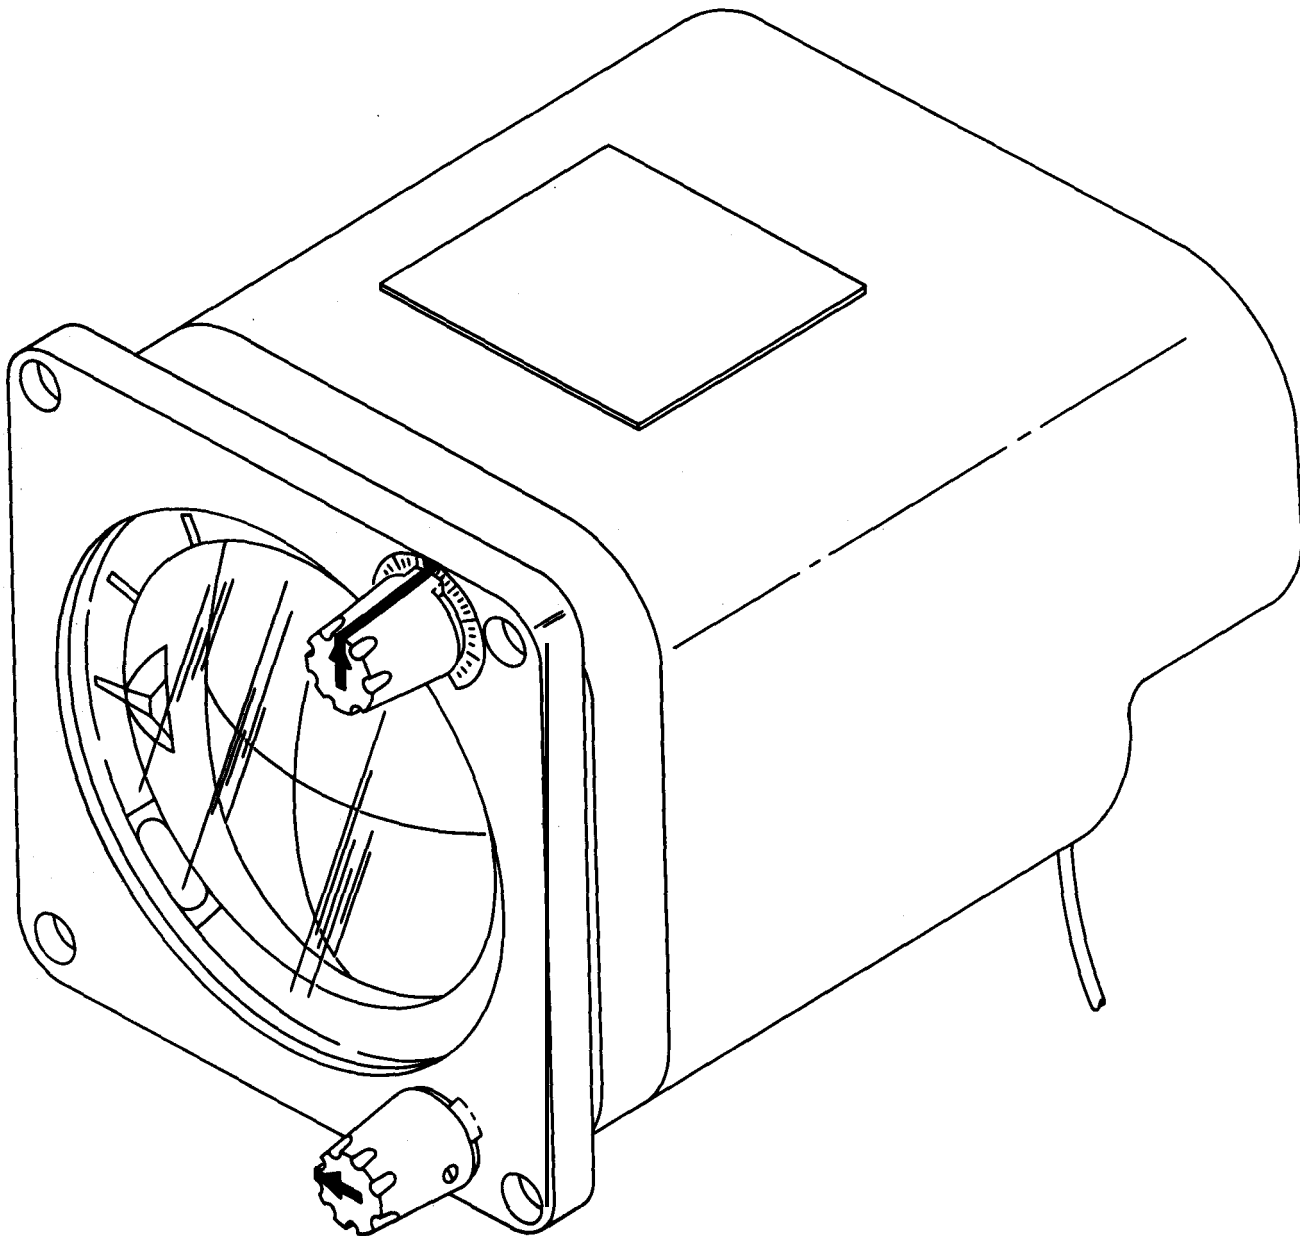

Figure 1-1, Remote Attitude Indicator, DSA 274.
a. This technical manual comprises overhaul instructions and test procedures for Remote Attitude Indicator, Model DSA 274 (fig. 1-1), manufactured by Consolidated Airborne Systems, Inc., Carle Place, Long Island, New York, Federal Manufacturer's Code 05808.